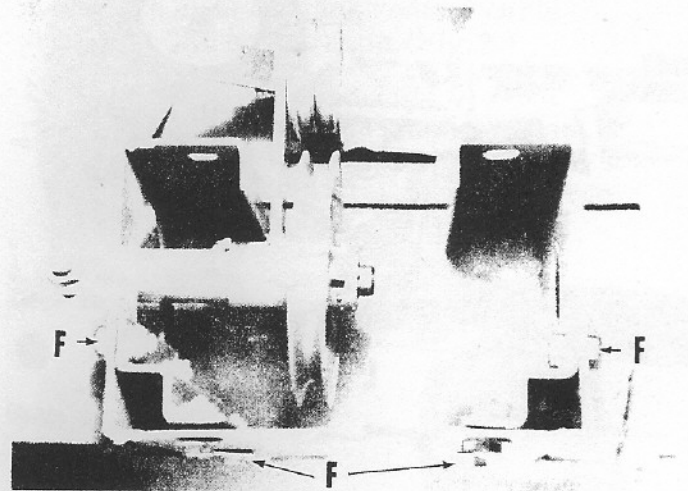

Fig. 11
The next step will be to tighten bolts (F) see (Fig. 11) which hold the mounting bracket in the pockets. Tighten each of the bolts securely.